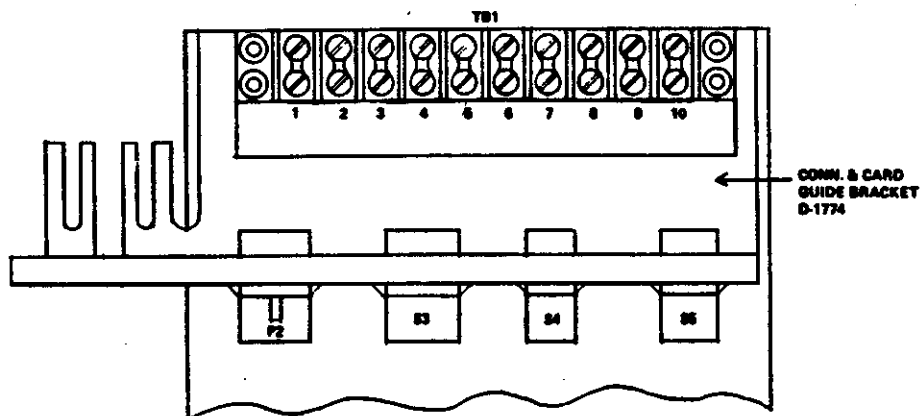

Figure 2 - Strap Selection on Terminal Strip
4. Check straps on TB1 terminal strip per the following chart (see Figure 2).